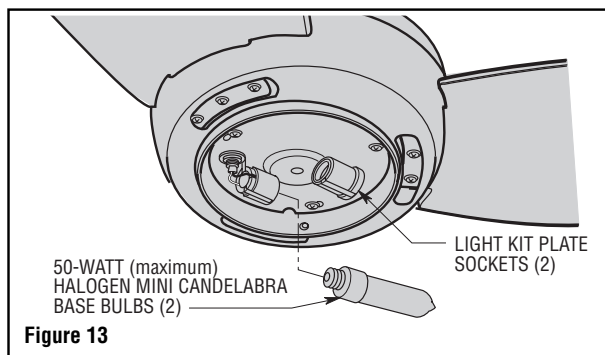

Figure 13
- Screw in two 50-watt (maximum) halogen mini candelabra base bulbs in the light kit plate sockets (Figure 13).